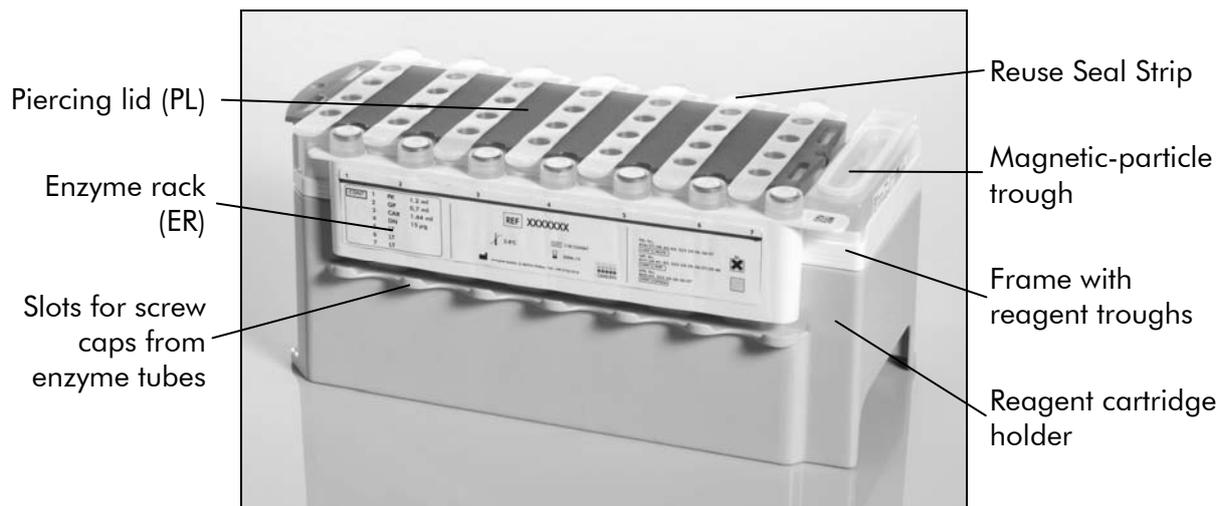

Figure 3. QIASymphony reagent cartridge (RC). The reagent cartridge (RC) contains all reagents required for the purification procedure.
Reagents for purification of nucleic acids are contained in an innovative reagent cartridge (RC) (see Figure 3). Each trough of the reagent cartridge (RC) contains a particular reagent, such as magnetic particles, lysis buffer, wash buffer, or elution buffer. Partially used reagent cartridges (RC) can be reclosed with Reuse Seal Strips for later reuse, which avoids generation of waste due to leftover reagents at the end of the purification procedure.
After the magnetic-particle trough cover is removed and the enzyme rack tubes are opened (screw caps can be stored in dedicated slots, see Figure 3), the reagent cartridge (RC) is subsequently loaded into the “Reagents and Consumables” drawer.